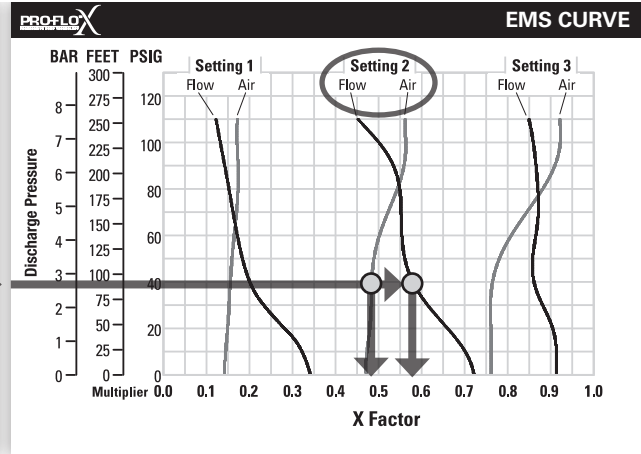

Figure 2
**Step 2: Determining flow and air X Factors.** Locate your discharge pressure [2.8 bar (40 psig)] on the vertical axis of the EMS curve (Figure 2). Follow along the 2.8 bar (40 psig) horizontal line until intersecting both flow and air curves for your desired EMS setting (in this case, setting 2). Mark the points where the EMS curves intersect the horizontal discharge pressure line. After locating your EMS points on the